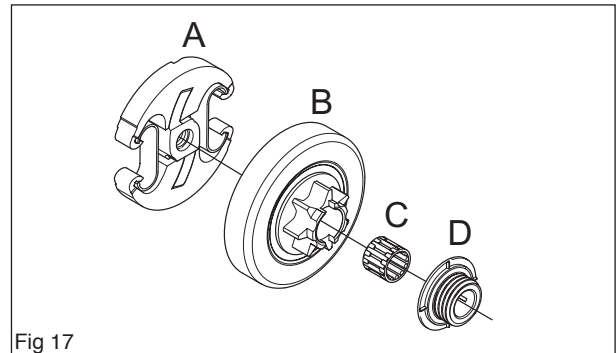

Fig 17
Remove the centrifugal clutch (A). Remove the clutch drum (B), needle bearing (C) and pump drive wheel (D). (see figure 17)